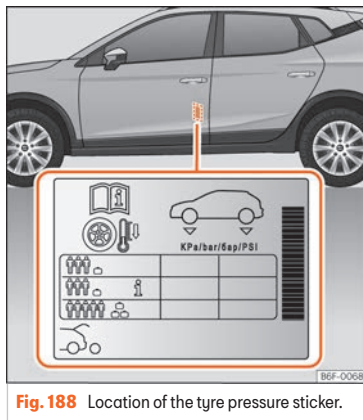

Fig. 188 Location of the tyre pressure sticker.
- Adjust tyre pressure to the load being carried by the vehicle »» Fig. 188.
The values of the tyre pressure are shown on the sticker label located on the read frame of the front left door »» Fig. 188.
The tyre pressure must be adjusted according to the load the vehicle is carrying. If the vehicle is going to be fully loaded, increase the tyre pressure to the maximum load value shown on the sticker label »» Fig. 188.
In the case of a minimised temporary spare wheel (125/70 R16 or 125/70 R18) inflate to a pressure of 4,2 bar as indicated on the tyre pressure label »» Fig. 188.
Depending on the vehicle, tyre pressure can be adjusted to medium load to improve driving comfort [tyre pressure **i** »» Fig. 188]. When driving with comfort tyre pressure fuel consumption may increase slightly.
- **The driver is responsible for ensuring that all of the vehicle tyres are correctly inflated to the right pressure. The recommended tyre pressure is indicated on the label »» Fig. 188.**
- **Tyre pressure should be that indicated on the label when the tyres are cold at all times »» Fig. 188.**